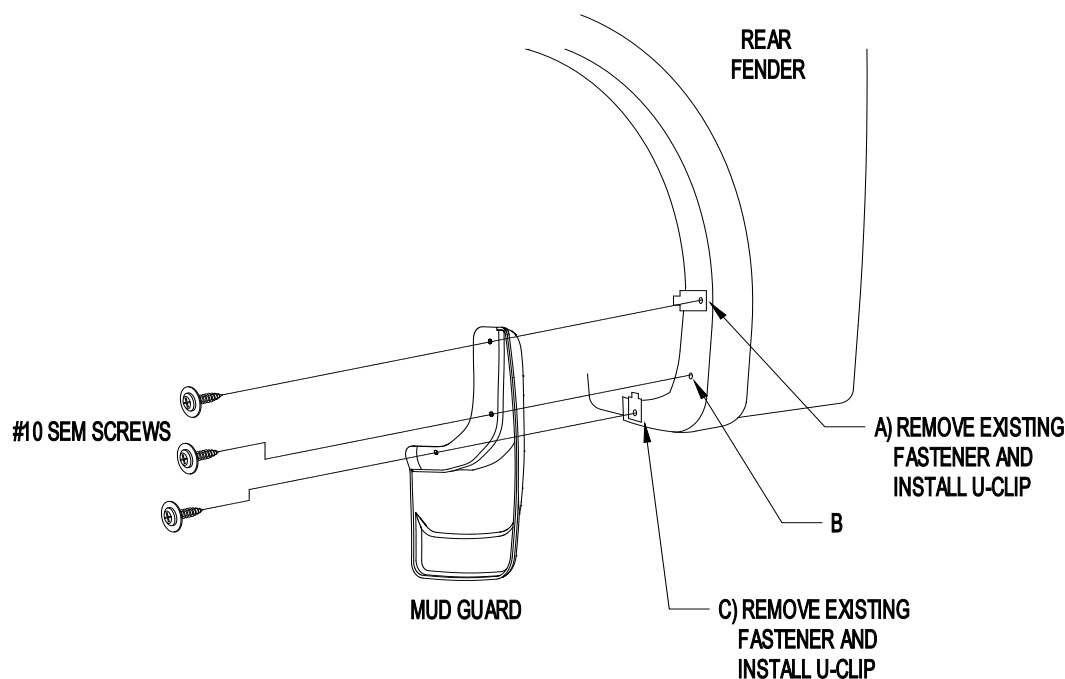

Figure 1
2. Remove existing fasteners and install U-clips at locations A and C (Figure 1).
3. Install mud guard to rear fender with #10 SEM screws at locations A and C (Figure 1). Check mud guard fit and adjust accordingly before tightening.